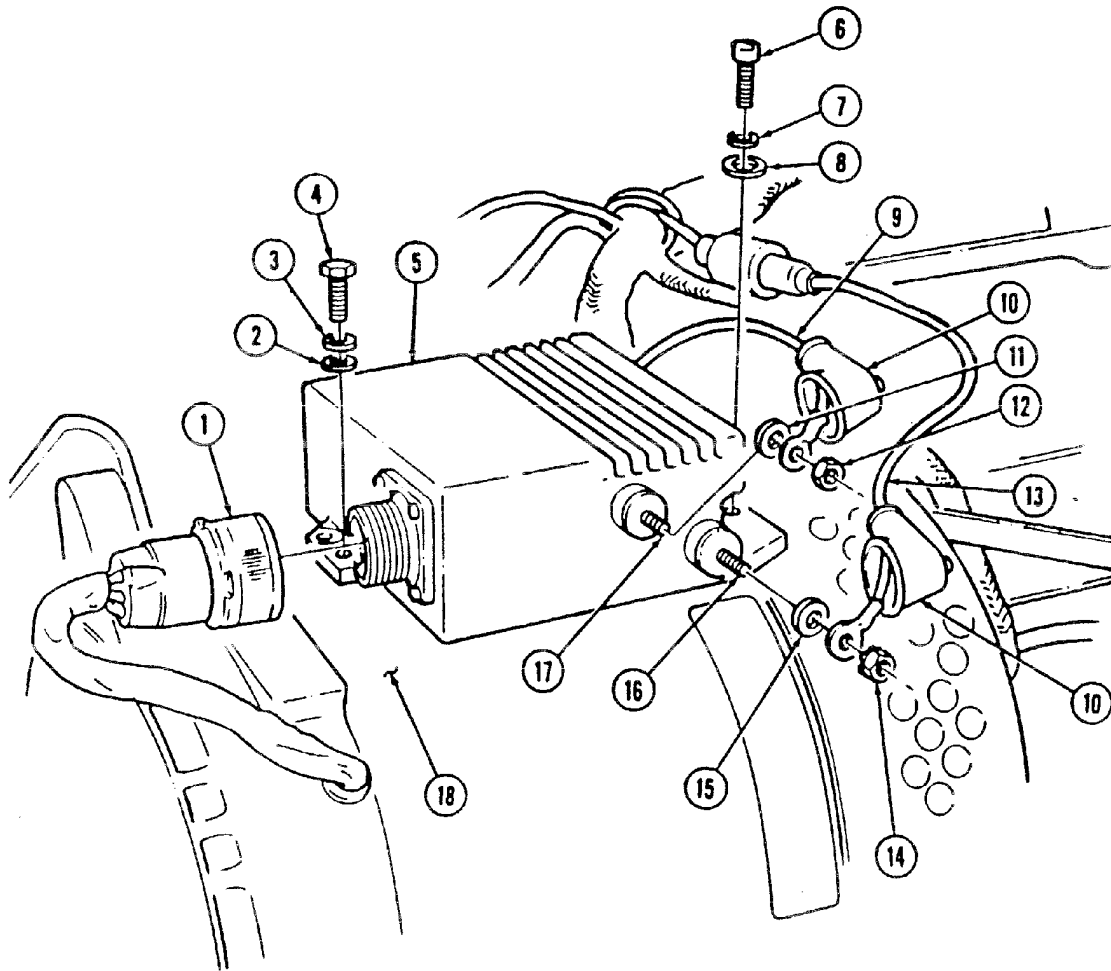
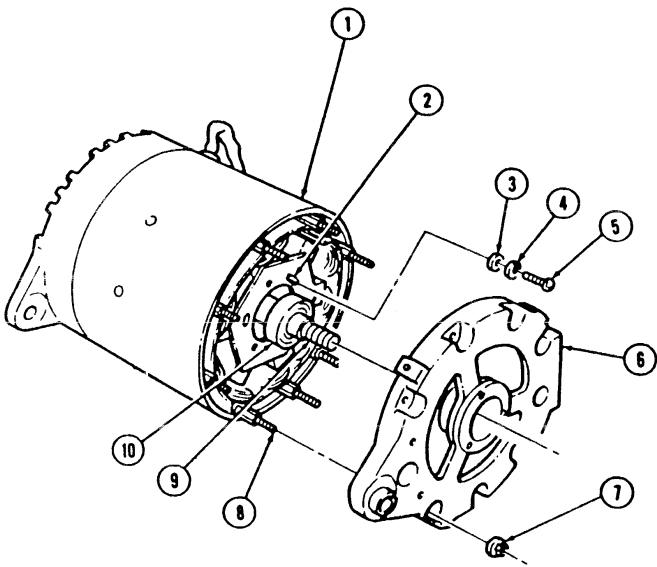
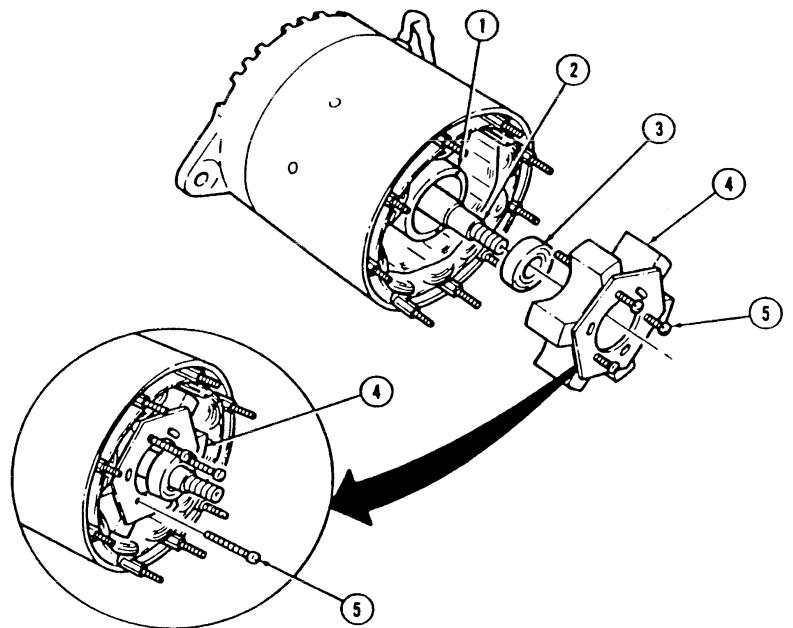

FIGURE 3-44
FIGURE 3-48
FIGURE 3-49
- (16) Use a press to install rear bearing (3) on core and shaft assembly (2). (see figure 3-49)
- (17) Install rear rotor assembly (4) on core and shaft assembly (2).
- (18) Apply NSN 8030-00-111-2762 seating compound to three screws (5). (see figure 3-48)
- (19) Align slots in rear rotor assembly (2) to mount holes on core and shaft assembly (9) and secure with three screws (5), lockwashers (4), and washers (3). Tighten screws (5) to 45 lb-in (5 N•m).
- (20) Install end housing assembly (6) on core and shaft assembly (9) and rear bearing (10). (see Figure 3-48) Tap lightly with a soft-faced mallet.
- (21) Apply NSN 8030-00-111-2762 sealing compound to studs (8) on shell stator/ field coil assembly (1).
- (22) Secure end housing assembly (6) to shell / stator / field coil assembly (1) with nine locknuts (7). Tighten locknuts (7) to 18 lb-in (2 N•m).
- (23) Apply NSN 8030-00-111-2762 sealing compound to threads of capscrew (4). (see figure 3-44)
- (24) Install voltage regulator (5) on alternator (18) and secure with washer (2), lockwasher (3), and capscrew (4).
- (25) Apply NSN 8030-00-111-2762 sealing compound to threads of two screws (6).
- (26) Install two washers (8), lockwashers (7), and screws (6) in voltage regulator (5) and alternator (18).
- (27) Connect regulator plug (1) to voltage regulator (5).